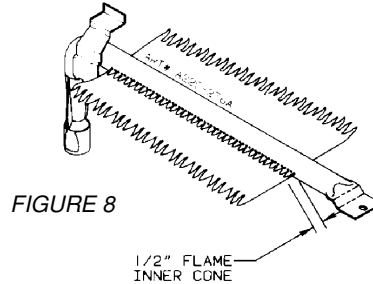

FIGURE 8
- The approximate length of the flame of oven burner is a 1/2 inch distinct inner blue flame, figure 8.